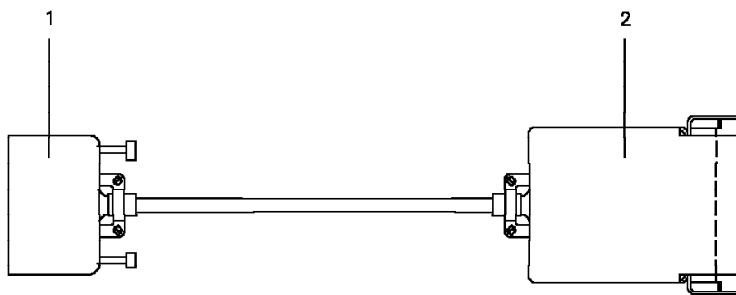

Figure 4-19. Adapter for ARC 3B (PN 65X9899)
2. If you are connecting a **V.35 DTE (ARC 3B)** to a **French terminal**, connect one adapter (PN 65X9899) between the terminal and the cable (see Figure 4-19). Connect **connector 1** to the **cable** and **connector 2** to the **terminal**.